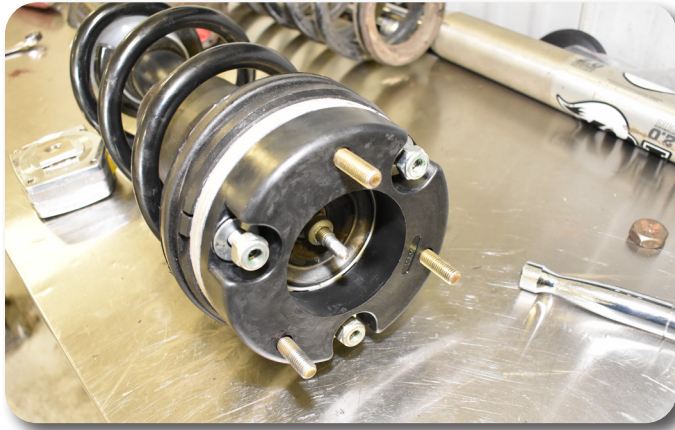

Figure 16
20. Install the strut spacer onto the strut with the provided washers and nuts. Figure 16 Torque the nuts to 40 ft-lbs. The spacer will only install one way.